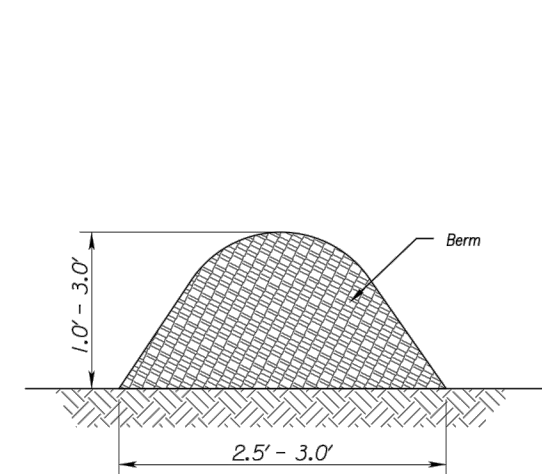
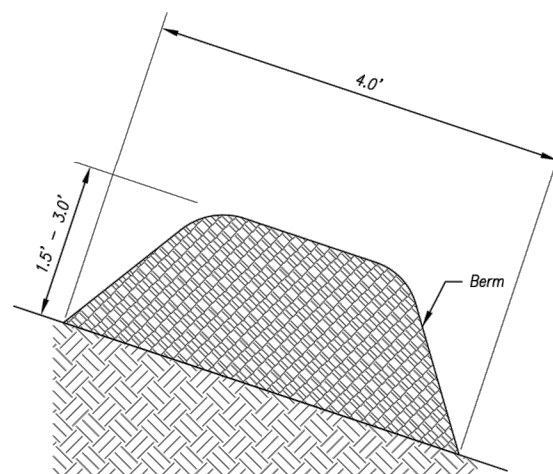

Figure 1
Figure 2
- Parallel to the base of the slope, or around the perimeter of other affected areas, construct a 1 to 3 foot high by 2.5 to 3 foot wide berm (see Figure 1). For maximum water treatment ability or for steep slopes, construct a 1.5 to 3 foot high trapezoidal berm that is a minimum of 4 feet wide at the base (see Figure 2). In extreme conditions, or where specified by the engineer, a second berm shall be constructed at the top of the slope. Engineer will specify berm requirements.